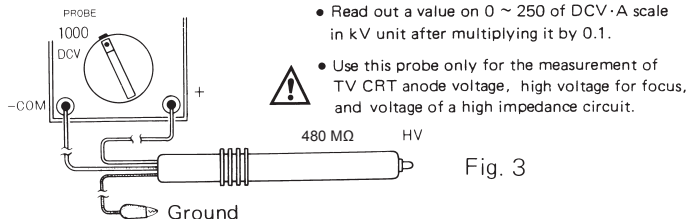

Fig. 3
5. For measurement of high voltage of TV, connect optional HV probe to the tester as shown in Fig. 3.